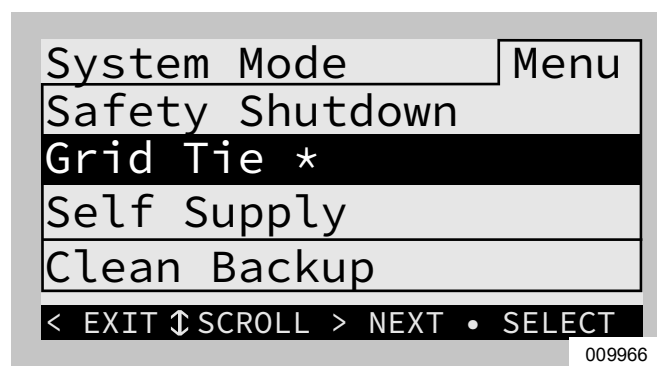

Figure 3-4. Selecting System Modes (2 of 5)
2. See Figure 3-4. A list of system modes will be displayed with the current mode marked with an asterisk.
NOTE: The list of modes may not include all those shown in Figure 3-4.